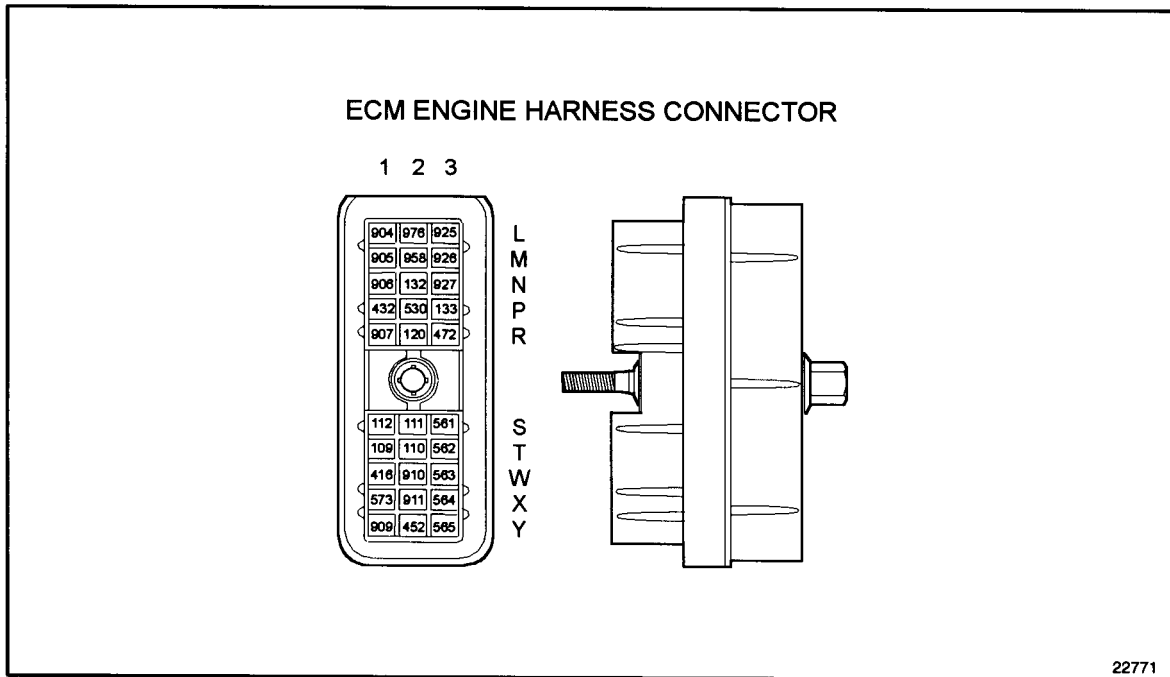

Figure 14-7 ECM Engine Harness Connector
3. Measure resistance between sockets P3 (#133) and Y2 (#452) on the engine harness connector. See Figure 14-7.
3. Measure resistance between sockets R2 (#120) and Y2 (#452) on the engine harness connector. See Figure 14-7.